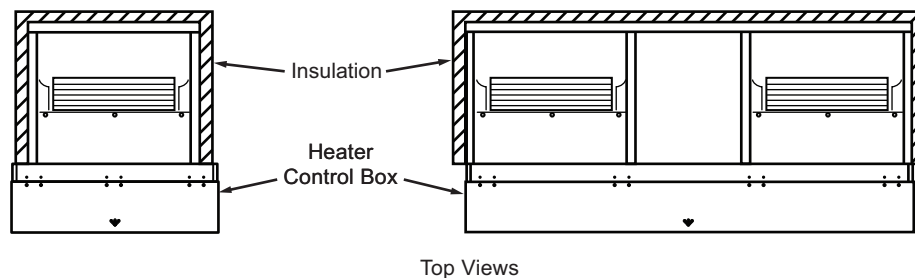

Fig. 3 — Heater Insulation
3. Insulate the outside of the heater (Fig. 3) except the control box, which has internal insulation. Insulation is required to minimize condensation when the unit is in the Cooling mode and to provide additional protection from hot surfaces when the unit is in the Heating mode. Also insulate the supply duct connected to the heater as required by the base unit installation instructions.